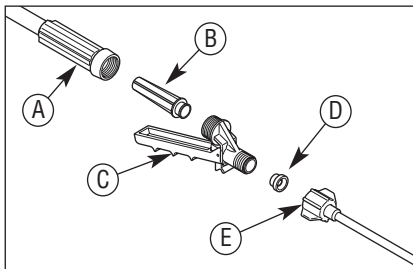

Figure 13. Shut-off Maintenance
1. Unscrew the handle from the shut-off assembly. See Figure 13.